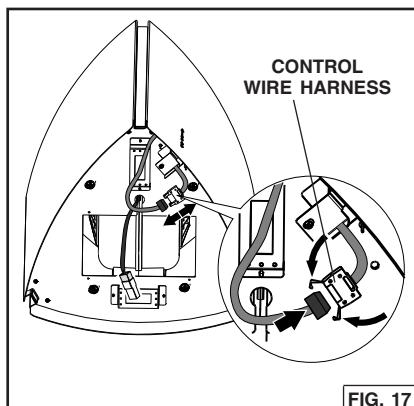

FIG. 17
1. Drop the control wire harness down and snap into connector. Fig. 17.